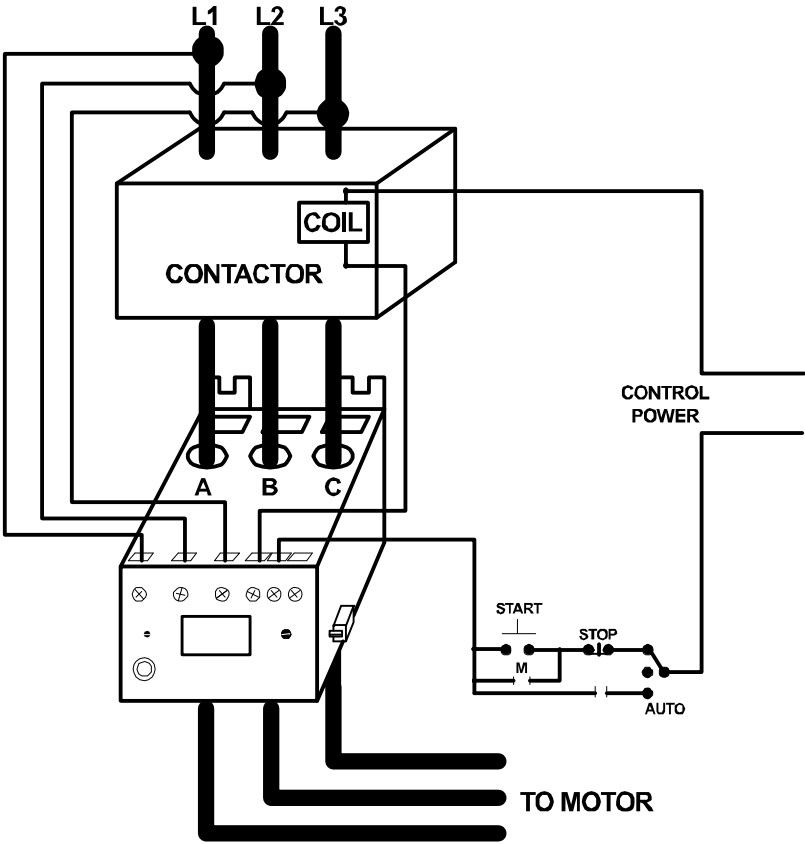

Figure 1: Typical Wiring Diagram for FLA of 5.0-21A
3. a) For amperages from 5-21 amps, insert the motor conductors through the holes marked A, B, and C. Ensure the motor phase conductors correspond with the round hole designations, i.e. the A phase conductor should go through the round hole marked "A". See Figure 1 for a typical wiring diagram.
5. Connect the control circuit wires to the appropriate terminals. The relay is designed for fail-safe operation; the NO (normally open) contact should be in series with the coil on the contactor for motor control (see Figure 1). For alarm circuits, the NC (normally closed) contact is in series with the alarm circuitry.